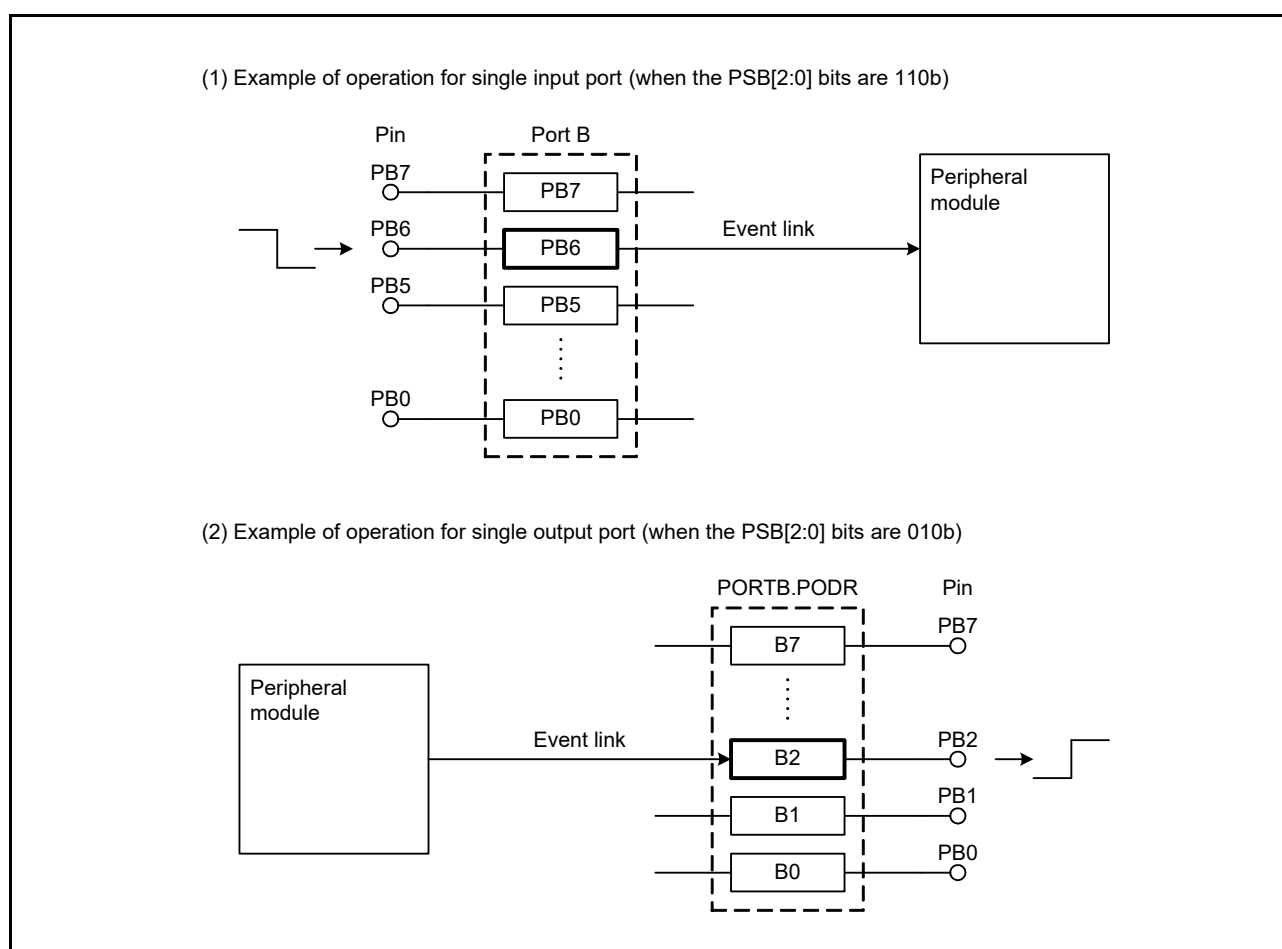

Figure 21.3 Event Linkage Related to Single Ports (Port B)
(2) Event Generation in Single Input Ports
A single port that is set as input generates an event signal when the input signal to the corresponding pin changes. The event generation condition is specified using the PELm.PSM[1:0] bits ($m = 0$ to 3). An example of operation is shown in Figure 21.3 (1).
(3) Single Output Ports Operation When Event Signal is Input
When an event signal is input to a single port set as output, the output level (the PODR register value) of the corresponding pin changes as specified by the PELm.PSM[1:0] bits. An example of operation is shown in Figure 21.3 (2).